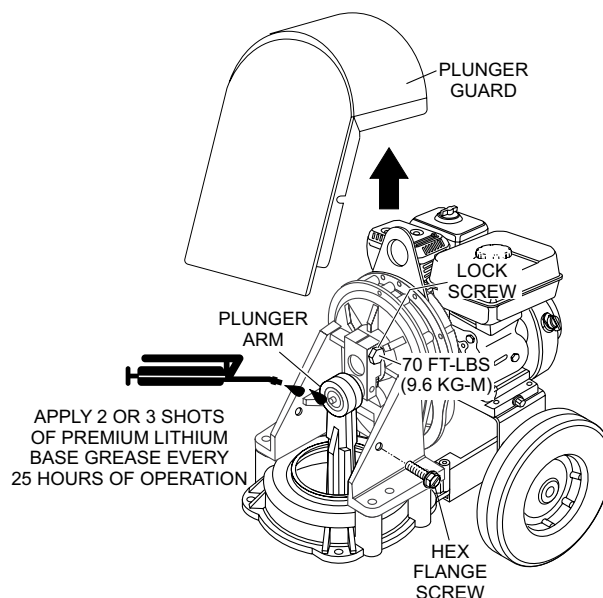

Figure 9. Connecting Rod Bearing Lubrication
1. Remove the the two 1/4"-20 X 3/4" hex flange screws (Figure 9) that secure the plunger guard to the gearbox feet. Set plunger guard aside.
1. Remove the two 1/4"-20 X 3/4" hex flange screws that secure plunger guard to the gearbox feet (Figure 9).